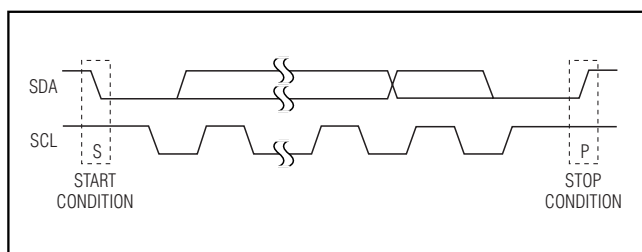

Figure 2. START and STOP Conditions
Each transmission consists of a START condition sent by a master, followed by the MAX7324's 7-bit slave address plus R/W bit, 1 or more data bytes, and finally a STOP condition (Figure 2).
Both SCL and SDA remain high when the interface is not busy. A master signals the beginning of a transmission with a START (S) condition by transitioning SDA from high to low while SCL is high. When the master has finished communicating with the slave, the master issues a STOP (P) condition by transitioning SDA from low to high while SCL is high. The bus is then free for another transmission (Figure 2).